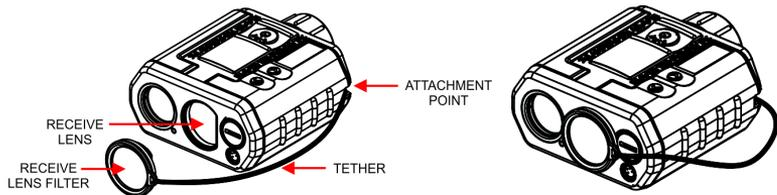

Figure 6
2. Place the Receive Lens Filter over the TruSpeed Sxb's Receive Lens. Figure 6 shows the Receive Lens.